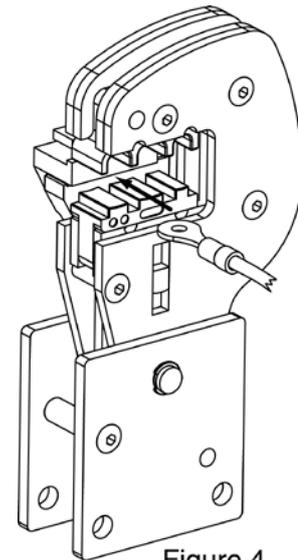

Figure 4
2. Position the product in the proper die position by matching the product color and the die position color code (see Figure 4).